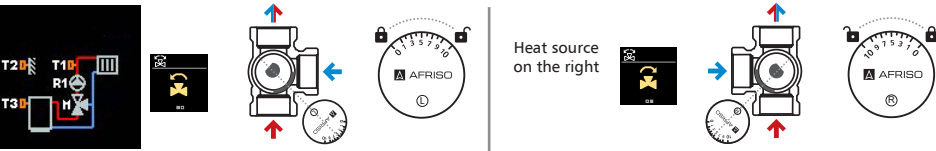
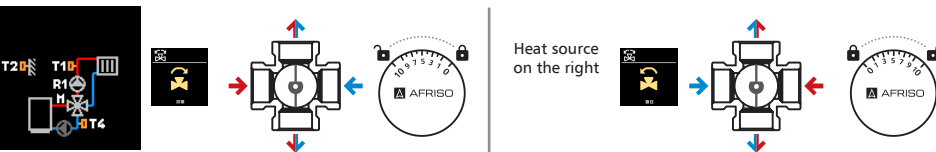

Fig. 9. Diagram with a 3-way mixing valve ARV Vario ProClick mounted on the supply pipe (radiator or manifold heating)
Fig. 11. Diagram with a 4-way mixing valve (radiator or manifold heating) with the return temperature protection function active
1. The appropriate T1, T2, T3, and T4 temperature sensors should be mounted in accordance with the chosen diagram (Fig. 9, Fig. 10, Fig. 11) by using the adapters included. The T2 sensor is an external sensor which should be mounted outside, on a north-facing wall, a minimum of two meters above ground level.
Select the appropriate diagram in accordance with the mounting position of the mixing valve in the system. The available diagrams are: two diagrams with the mixing valve mounted on the supply pipe (Fig. 9), two diagrams allowing connection of another controller using BUS communication (Fig. 10), and two diagrams mounted on a 4-way valve (Fig. 11).
In the last step, you need to select the right scale, either “0 to 10” or “10 to 0”, corresponding to the chosen diagram (Fig. 9, Fig. 10, Fig. 11). To change the scale, you need to lift up the plate, and put it on again facing the other side.